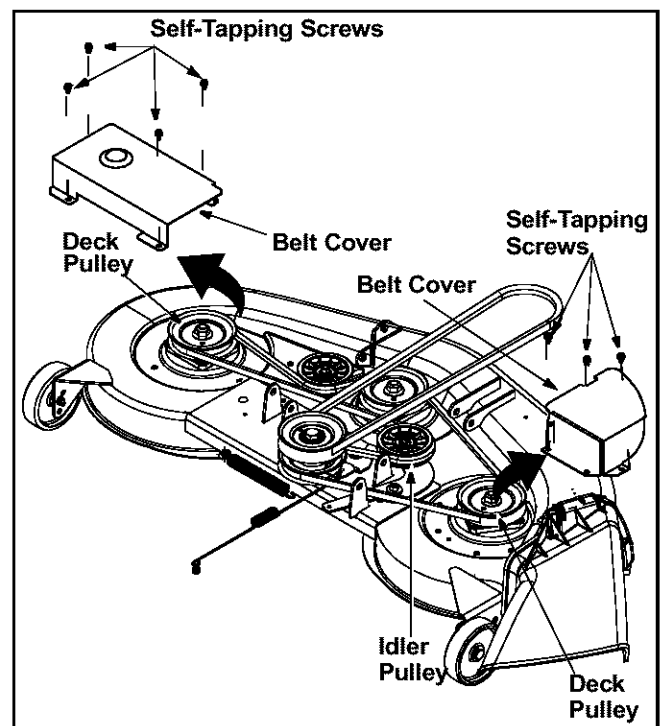

Figure 24
- Remove the belt cover at the two outside deck pulleys, by removing the self-tapping screws. See Figure 24.
- Remove the belt from around the idler pulleys, and remove from the three deck pulleys. See Figure 24.